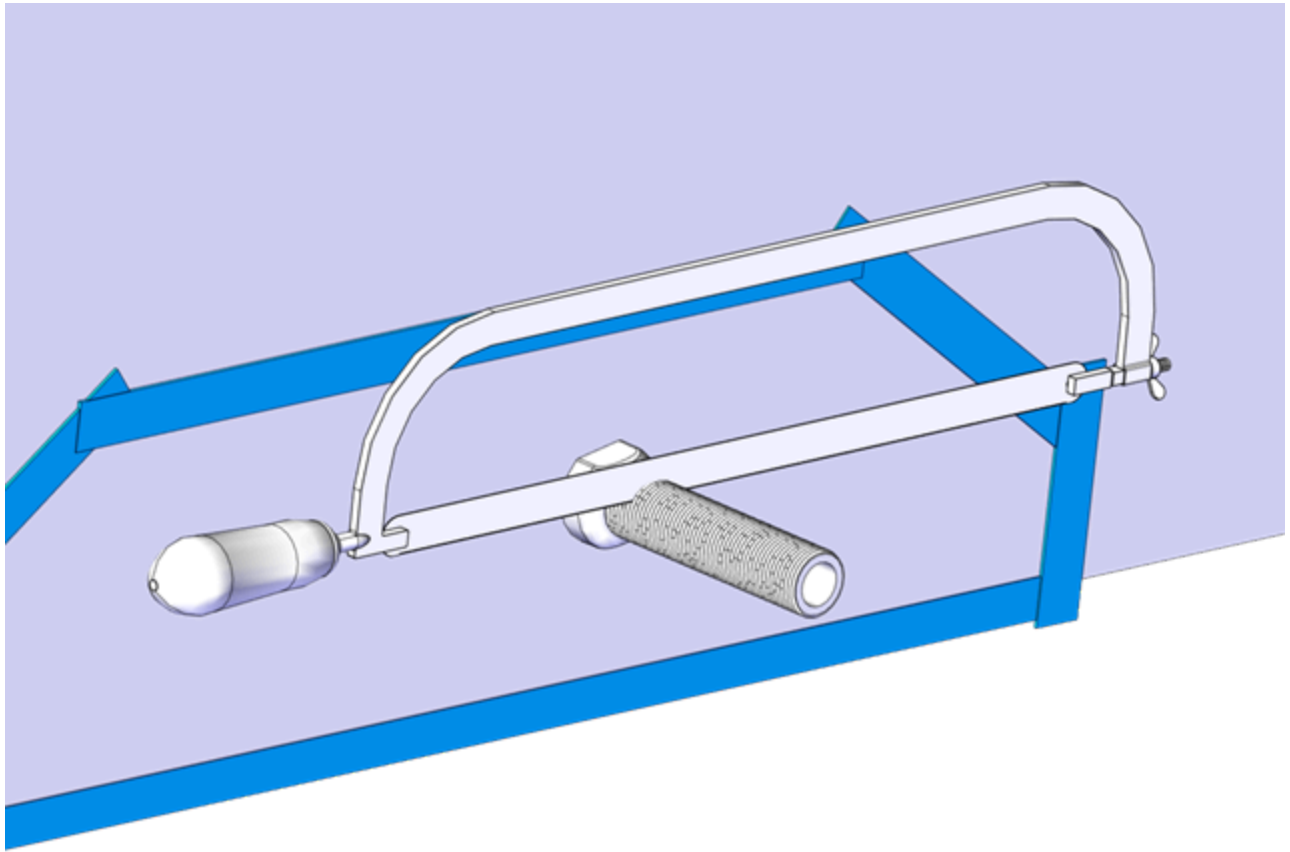

Figure 58 – Cable Gland Trimming
6. Cut off the excess threads on the outboard side using a hacksaw or oscillating tool (Figure 58 – Cable Gland Trimming).
7. Hold the Inner Cable guide up to the Cable Gland in the desired mounting location. Mark the locations of the two (2) mounting screws and drill 3/32 in. (2.4 mm) pilot holes in these locations.
8. Inject sealant in both pilot holes. Use a screwdriver to install the two (2) No. 8 x 1-1/2 in. screws to mount the Inner Cable Guide.